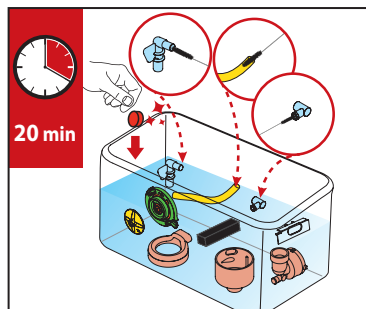

Fig.1
1. Place all the mixing system parts in a bin with a locally approved food grade cleaning agent and hot water and soak for approximately 20 minutes. (See Fig.1)